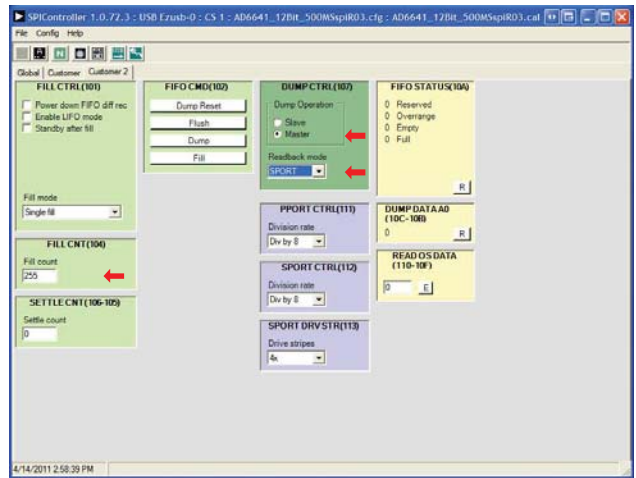

Figure 14. SPI Controller, Customer Tab
- In the **Customer 2** tab of the **SPIController** window (see Figure 14, set the following options: